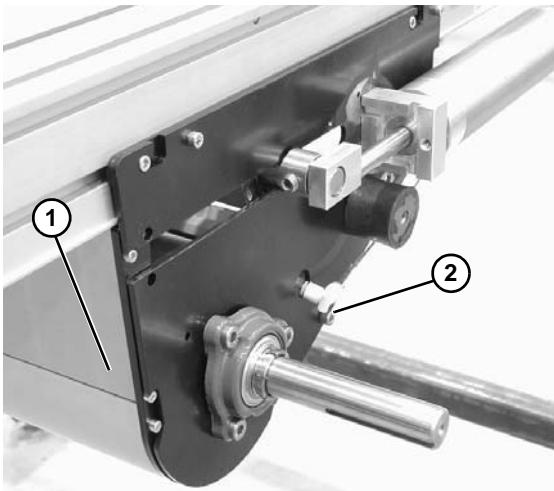
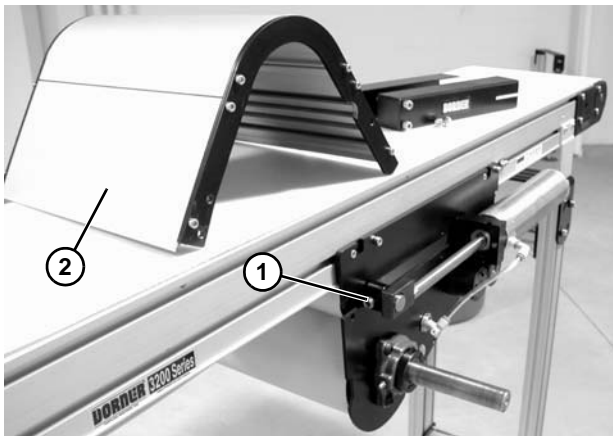

Figure 35
Figure 36
6. Temporarily support the tensioning roller guard (**Figure 35, item 1**). Remove screws (**Figure 35, item 2**) on both sides of center drive and remove tensioning roller guard (**Figure 35, item 1**) and (**Figure 36, item 2**).
7. Loosen tensioning roller set screws (**Figure 36, item 1**).